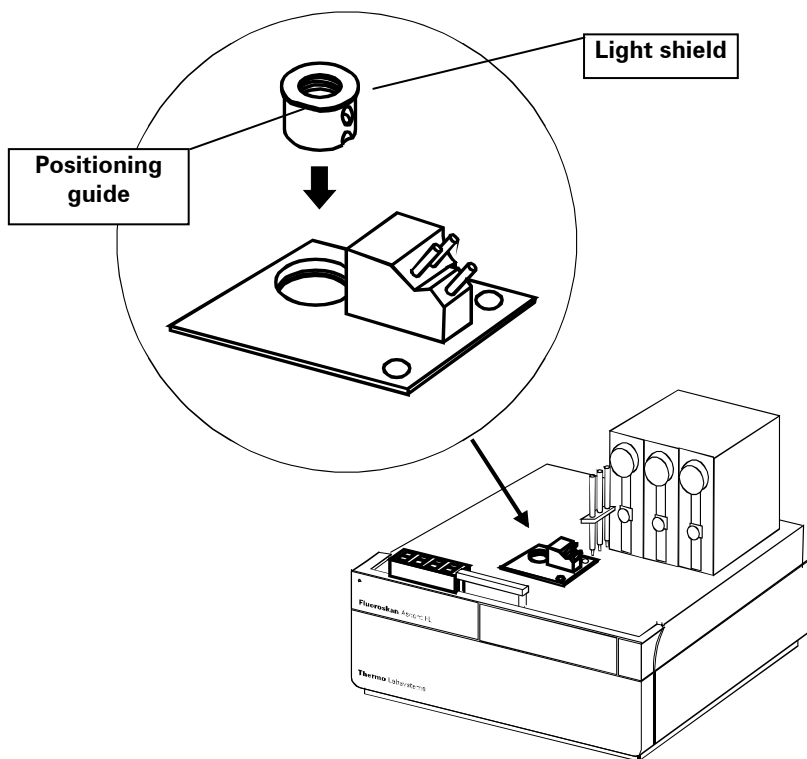
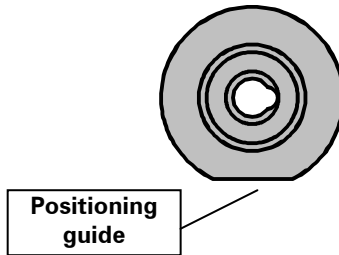
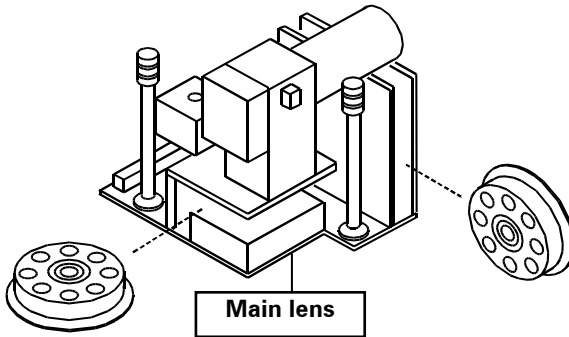

Fig. 4.7a Installing the light shield
Fig. 4.7b Top view of the light shield
Fig. 5.2 Cleaning the optical unit
5. When removing the light shield, use your little finger to lift the light shield up. When installing the light shield, ensure that the positioning guide is placed towards the front of the instrument against the corresponding guide in the holder (Fig. 4.7a and Fig. 4.7b). If the light
2. Clean the main lens (Fig. 5.2), the filters and the light shield (Fig. 4.7a) with a cloth dampened with 96% pure ethanol and afterwards with a lint-free cloth or a lens tissue.